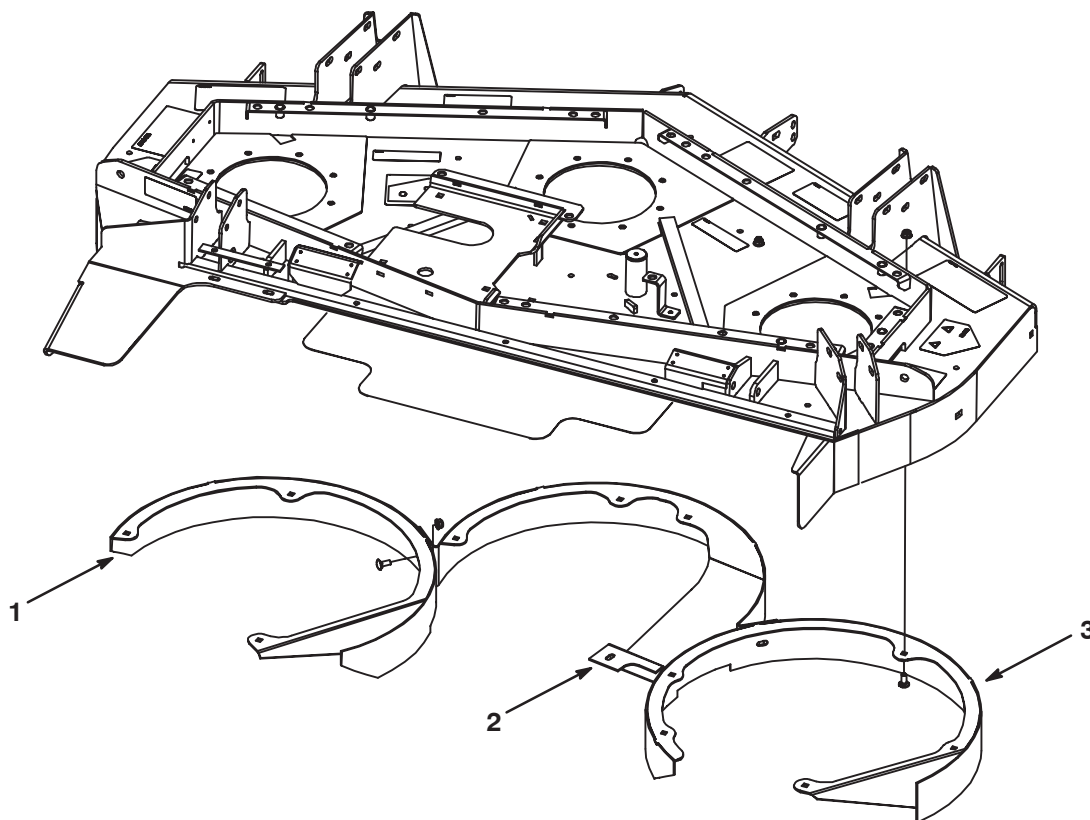

Figure 1
4. Remove the carriage bolts and nuts securing the left and right chambers to the center chamber (Fig. 1).
5. Remove the carriage bolts and nuts securing the left, center and right chambers to the deck (Fig. 1).